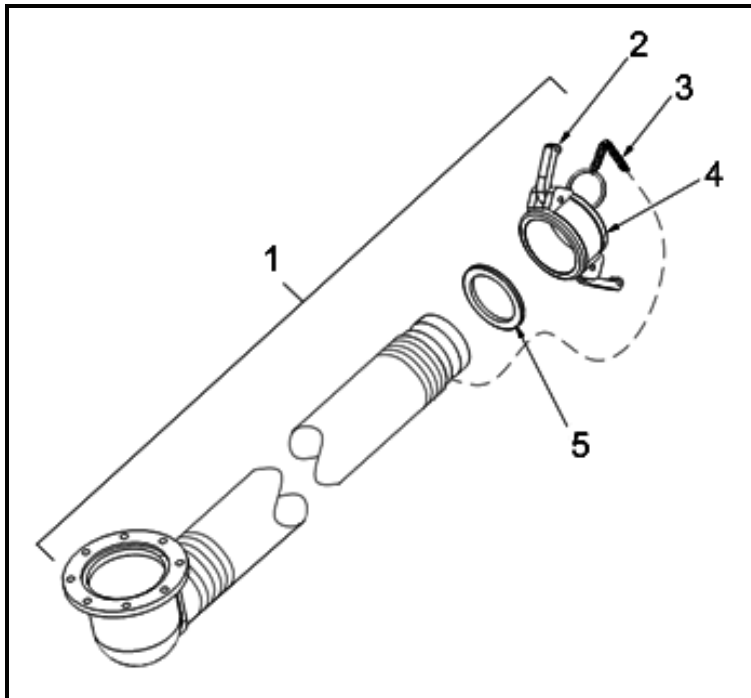

Figure 1. Drain Hose Assembly – with Dome
1. Pull outward on two cam-lever arms (Figure 1, Item 2). Remove dust cap (Figure 1, Item 4) from the hose assembly (Figure 1, Item 1).
2. Remove chain assembly (Figure 1, Item 3) and remove dust cap (Figure 1, Item 4) from hose assembly (Figure 1, Item 1).
3. Remove gasket (Figure 1, Item 5) from dust cap (Figure 1, Item 4). Discard gasket.